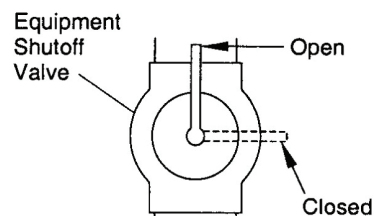

Figure 18- Equipment Shutoff Valve
1. Close equipment shutoff valve (see Figure 18).
1. Open equipment shutoff valve (see Figure 18).